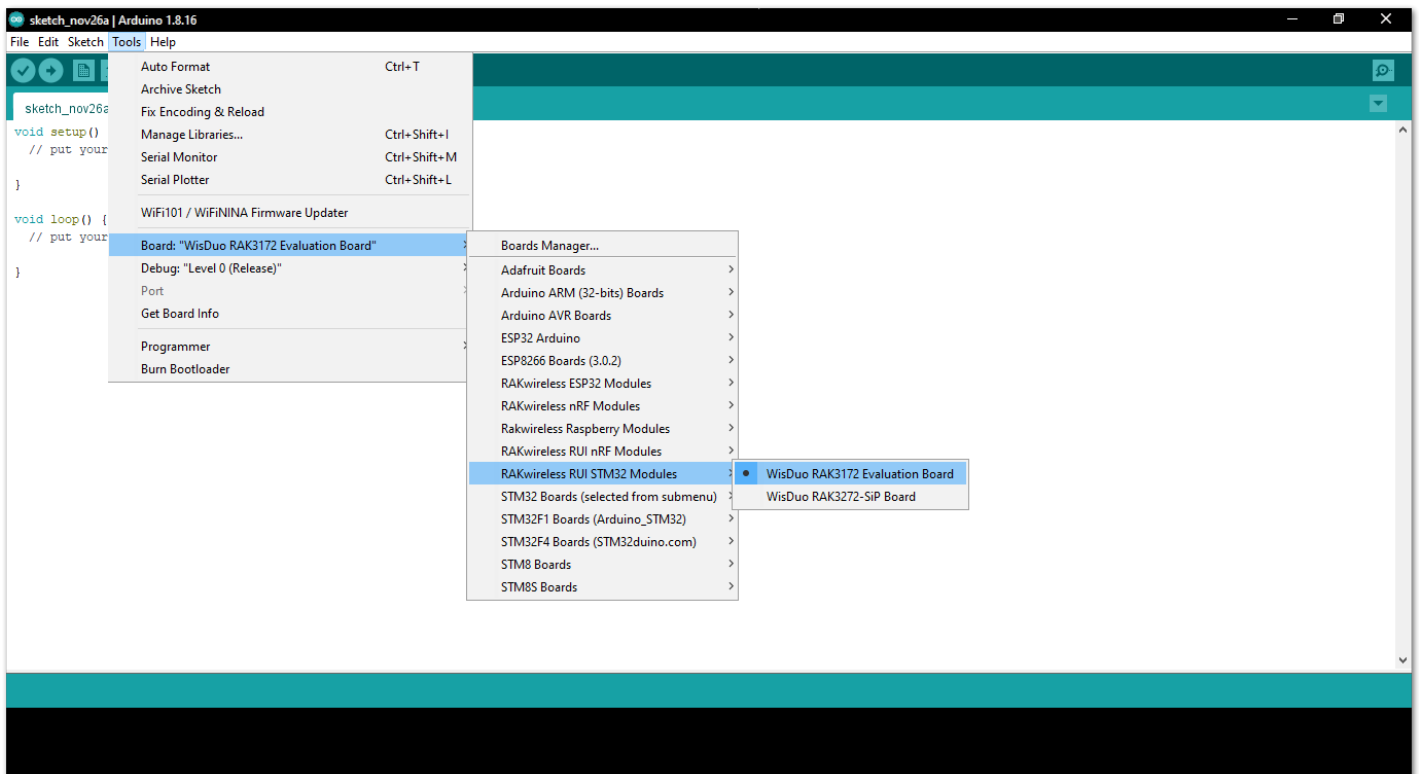

Figure 9: Selecting RAK3172 Module
2. Launch Arduino IDE and configure WisDuo RAK3172 Evaluation Board on board selection. See **Figure 9**.